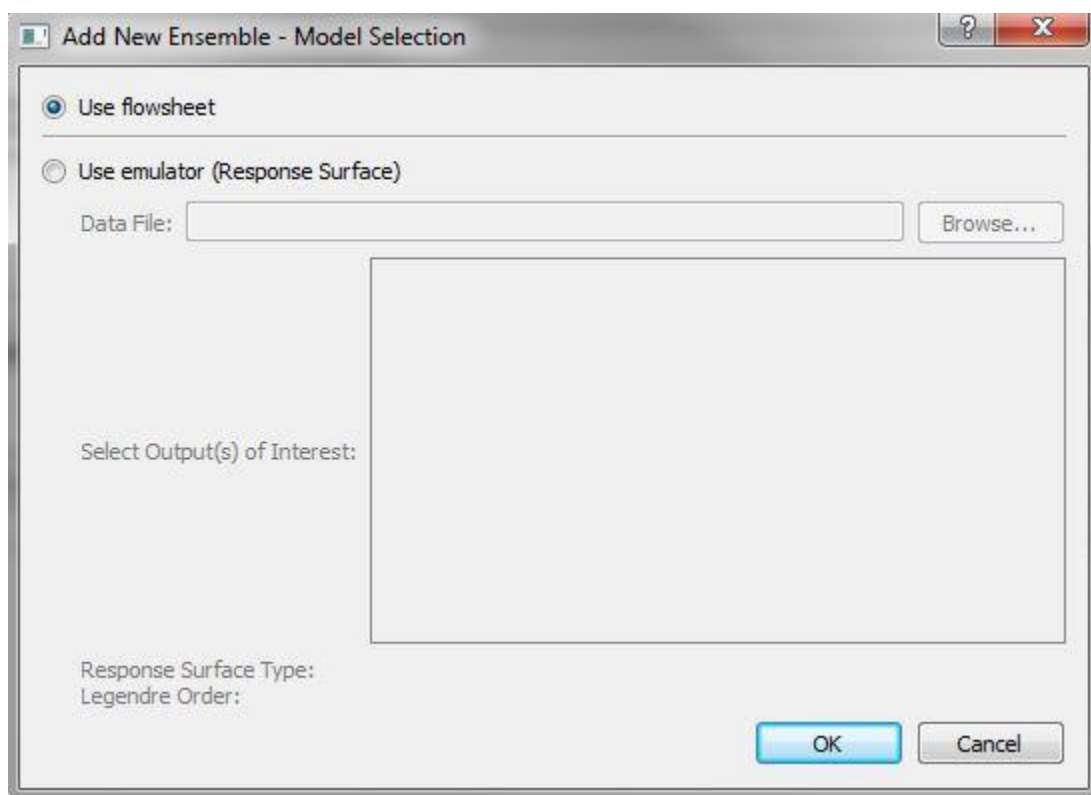

Figure 4: Add New Ensemble Window for Sampling Input Space
- Click “Add Samples” in the “Data” frame of the iREVEAL window. An “Add New Ensemble – Model Selection” dialog window as shown in Figure 4 displays. Click “OK”. A “Simulation Ensemble Setup” window as shown in Figure 5 displays and contains variables marked in the JSON input file as “varied” under the “Distributions” tab. The parameters and the ranges shown here are included in ROM for sampling. For an input variable that is part of an input boundary, the name of the variable is usually the string that contains the name of the physical quantity in the JSON file appended by the corresponding boundary name, phase name, and phase index. For example, if the physical quantity is “Temperature”, the boundary name is “Feed”, and the phase is the first solid phase, the input variable name is “Temperature_FeedSP0”. Here “SP” stands for “Solid Phase” and 0 is the zero-based solid phase index. If the temperature is for the gas/liquid mixture phase, the input variable name is “Temperature_FeedGP” and no phase index is appended since there is always one gas/liquid mixture phase only. Notice that the two input parameters shown in Figure 5 are “TotalMassFlow_OFAGP” and “TotalMassFlow_SecGP”, representing the total overfire air mass flow rate and total secondary air mass flow rate, respectively. A prefix “iREVEAL” is added to the two input parameters. The values in the “Min” and “Max” columns are the data for lower and upper limits of the parameters. To make changes to the parameter list or the lower and upper limits of parameters, the user should make the corresponding changes in the JSON file and then repeat Steps 1 and 2.